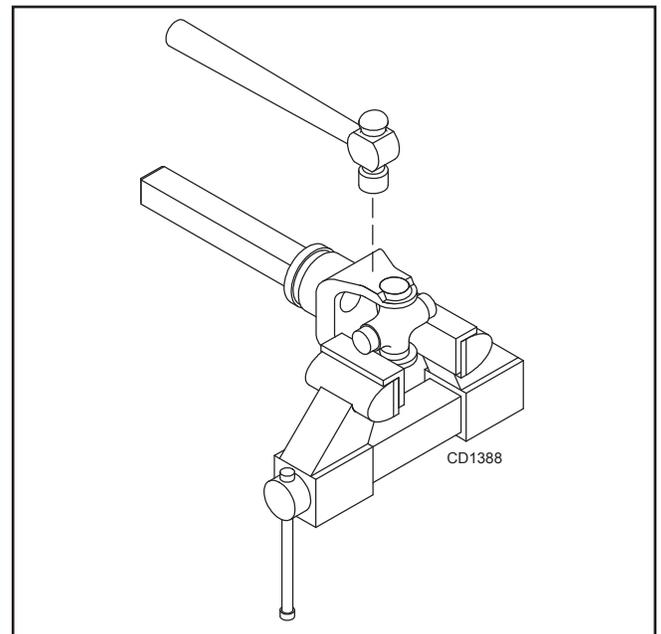

Figure 24.
4. Place universal cross in vise as shown in Figure 24 and tap on yoke to remove cup. Repeat Step 3 for final removal. Drive remaining cup out with a drift and hammer.